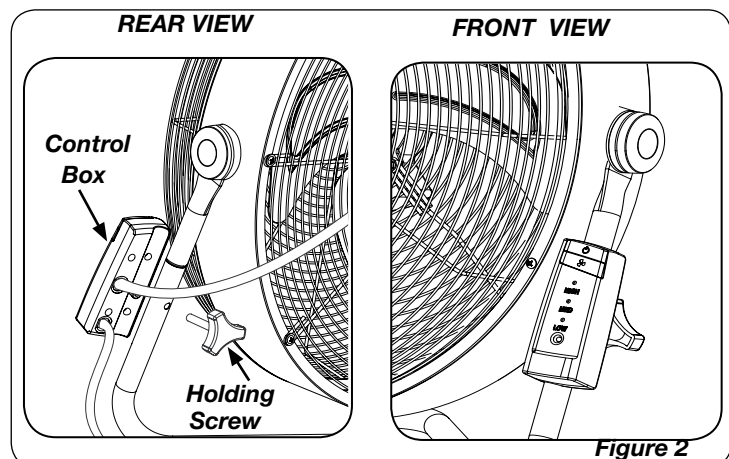

Figure 2
- Remove the holding screw from the rear of the fan control box. (See Figure 2)
- Insert the holding screw from the rear of the fan through the hole in the stand leg as shown.(Figure 2)